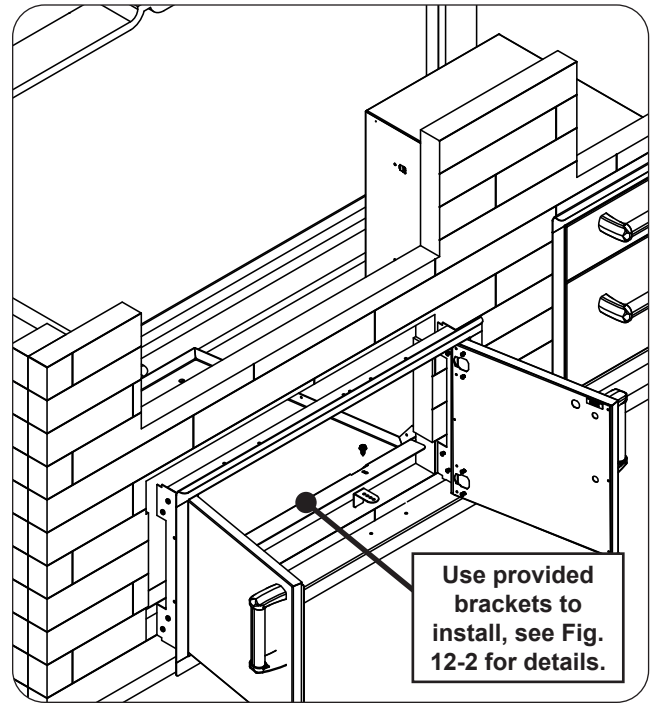
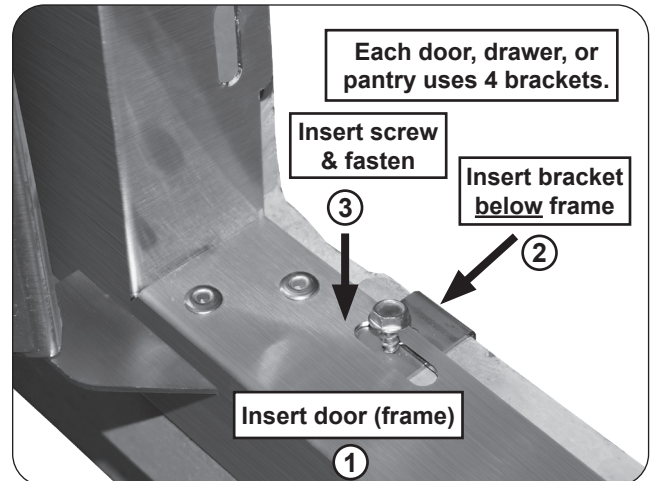

Fig. 12-1 Door/drawer install detail
Fig. 12-2 Door/drawer install detail
1. Insert your unit completely into the appropriate opening. Ensure it is flush against the exterior wall (see Fig. 12-1, and Fig. 12-2 or Fig. 12-3, step 1).
2. The unit will have 2 oblong cutouts (or round holes) on both the top and bottom of its frame. Reach from within the island and insert a bracket where a cutout exists, **below the frame**. See Fig. 12-2 or Fig. 12-3, step 2.
3. While squeezing the rear of the bracket and the front of the frame **firmly** against the concrete wall, insert a hex screw and tighten with the power drill and  $\frac{5}{16}$ " hex driver (see Fig. 12-2 or Fig. 12-3, step 3). **DO NOT OVERTIGHTEN.**